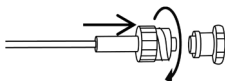

Figure 2
2. Connect the gas sample line (male luer connector) to the respiratory gas monitor as shown in Figure 2. Rotate the luer connector clockwise for a secure fit to ensure that there is no leakage of gases at the connection point.